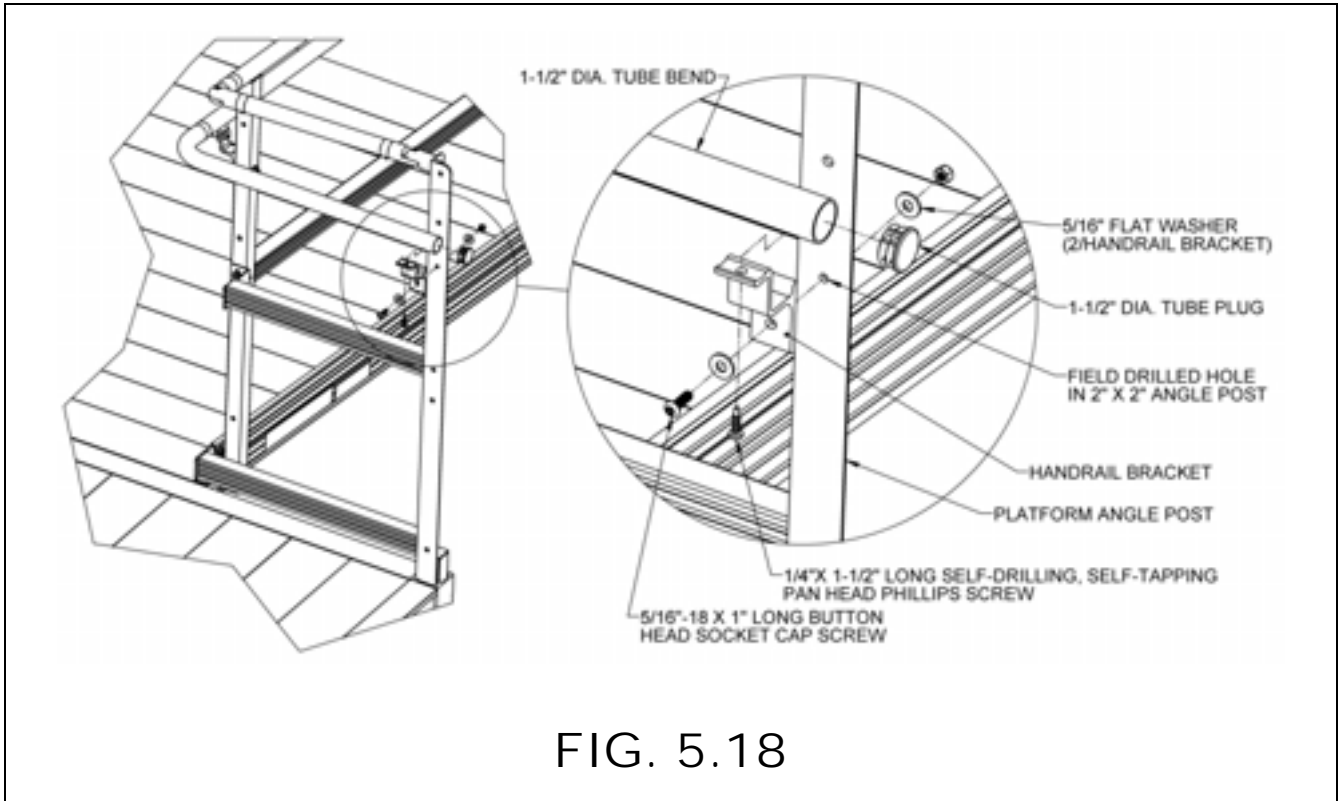

FIG. 5.18
- 5.5.3. Locate a handrail bracket. Hold handrail bracket in place, centered on the platform angle post with the saddle in contact with the tube bend (FIG. 5.18).
- 5.5.5. Attach the handrail bracket to the platform angle post using a 5/16"-18 x 1" button head socket cap screw, 5/16" flat washers, and 5/16"-18 nylon insert locknut oriented as shown (FIG. 5.18).
- 5.5.6. Attach handrail bracket to the tube bend with a 1/4" x 1-1/2" self-drilling, self-tapping pan head Phillips screw through the hole in handrail bracket saddle (FIG. 5.18).
- 5.5.8. Insert a 1-1/2" end plug into the open end of the tube bend (FIGs. 5.18 and 5.19). Use a rubber mallet or similar tool to fully seat as needed.